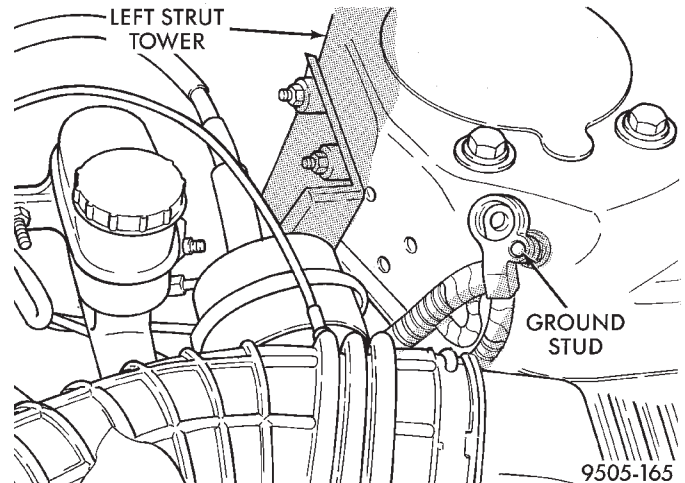

Fig. 21 Correctly Isolated Remote Ground Cable
(2) Correctly isolate remote ground cable when servicing vehicle by installing the ground cable insulator on the strut tower ground stud as shown in (Fig. 21) and installing the nut on the stud. **This will prevent accidental grounding of the remote ground cable.**